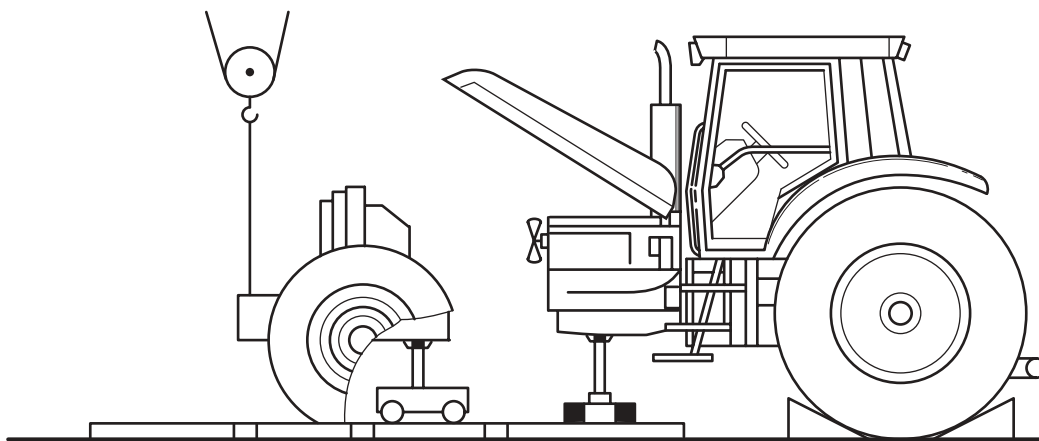

Fig. 7
57. Assisted by an operator, separate the assemblies (Fig. 7).